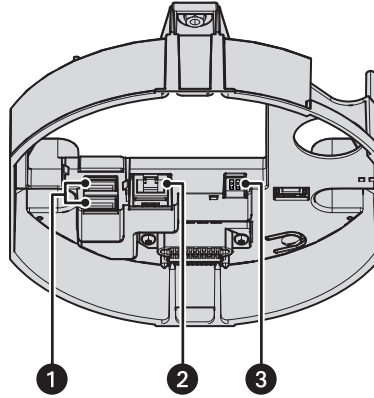

Figure 3. Power Wiring Connections: In-Ceiling Models
8. Connect the power wiring. Refer to Figure 3 and *Wiring* on page 15 for more information.